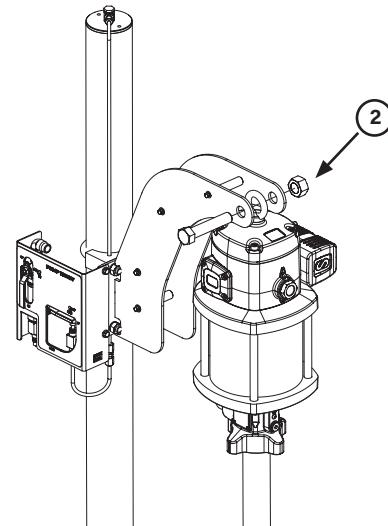

Fig. 5
1. Fix the pump through eye bolt with bolt and nut (2) (fig.5)